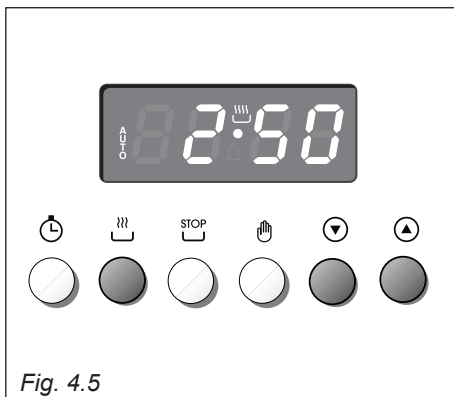

Fig. 4.5
1. Set the length of the cooking period by pushing the  button and the  button to increase, or  to decrease if you have passed the desired time (fig. 4.5). The **AUTO** and the  symbol will illuminate.